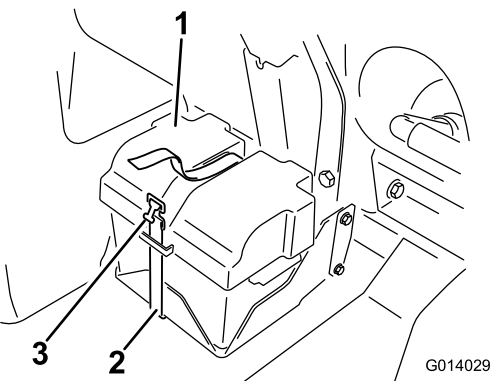

Figure 79
2. Remove the battery cover and disconnect the negative (black) ground cable from the battery post (Figure 79).
4. Install the battery cover and secure it with the strap removed previously (Figure 79).